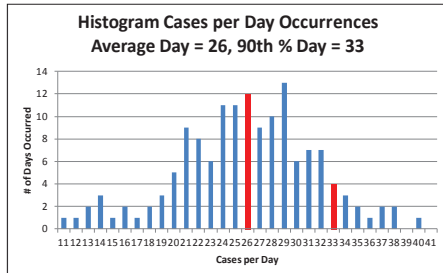

Figure 3
**Histogram charts:** Histogram charts are bar charts that look at both frequency distributions (the occurrence of each value in a set of data) and the distribution of the data. Histogram charts help understand the expected performance within a population. **Figure 3** shows the number of cases performed per day over a specific length of time along the x axis. The y axis shows how many times that daily volume of cases occurred. Looking at this figure, the SP team could see that there were 12 days that 26 cases were completed and four days that 33 cases were completed. Histograms can be used to determine averages, plan labor needs or examine the variability of a given process to perform within specifications.